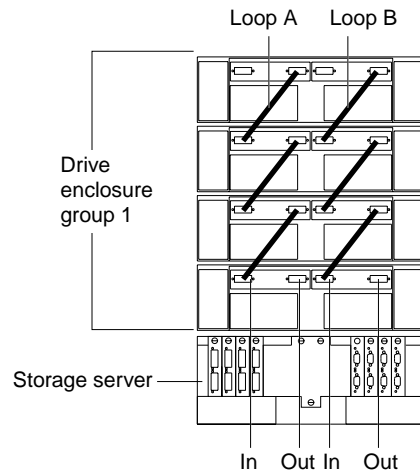

Figure 30. Connecting additional drive enclosures to drive loops A and B
3. Connect additional drive enclosures to drive loops A and B, as shown in Figure 30 on page 28.